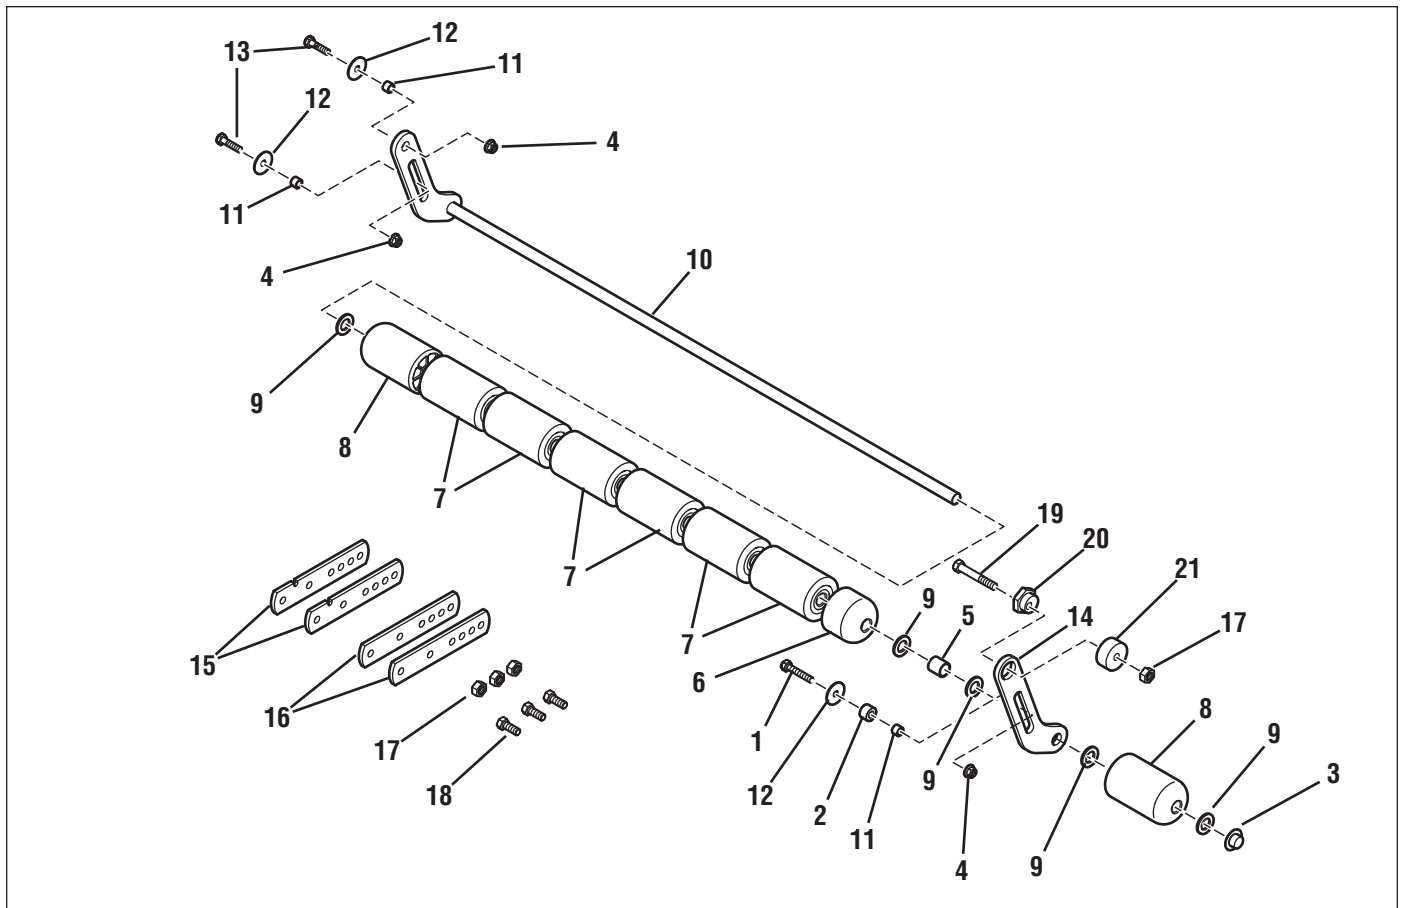

Figure 1. Kit Contents:
Note: Extension Bars (item 16, Figure 1) are for early production models, and have different mounting hole spacing. Extension bars with notches are for later production models.